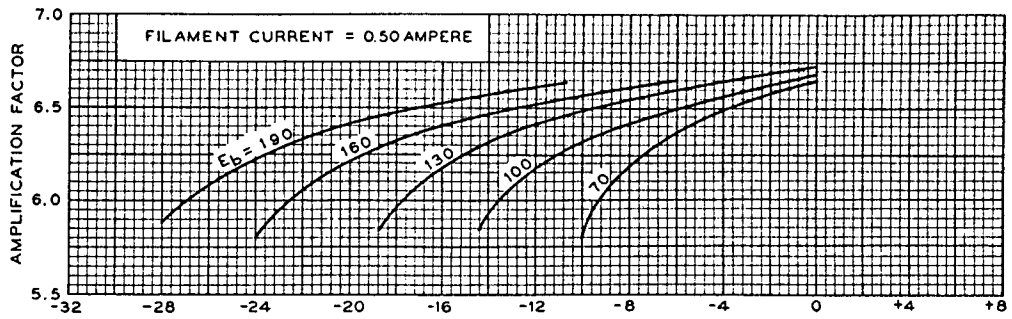
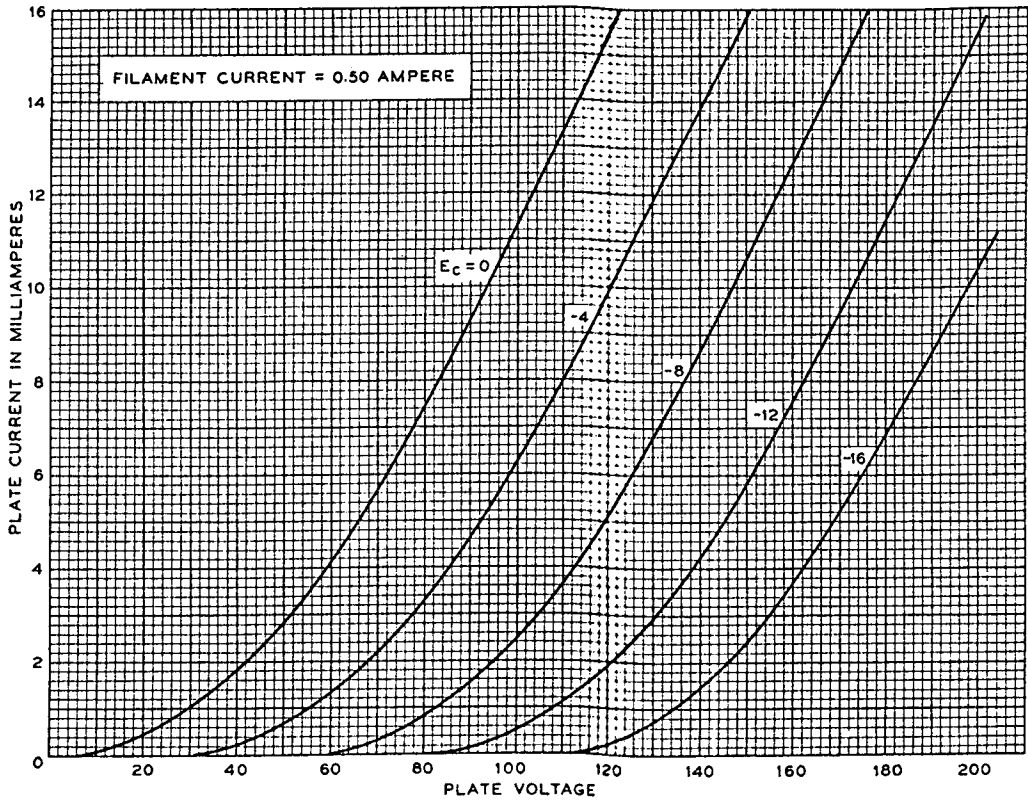

FIG. 4
FIG. 7
**Characteristics and Operating Conditions**—Plate-current characteristics of a typical 101J tube are shown in Figure 3 as functions of grid bias. Permissible operating grid and plate voltages are included within the area ABCD. The grid and plate voltages are measured to the negative end of the filament. Corresponding amplification-factor, plate-resistance, and transconductance characteristics are given in Figures 4, 5, and 6, respectively. Plate-current characteristics are given as functions of plate voltage in Figure 7.